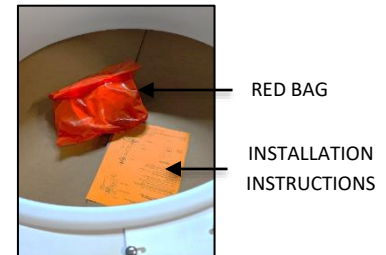

FIG. 4 RED BAG AND
3. INSTALLATION INSTRUCTIONS (shown in FIG. 4) - Please completely read the install instructions before starting installation.
4. RED BAG (shown in FIG. 4)